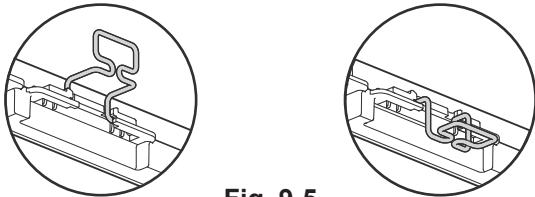

Fig. 9-5
9.4.1. Preparations (Fig. 9-5)